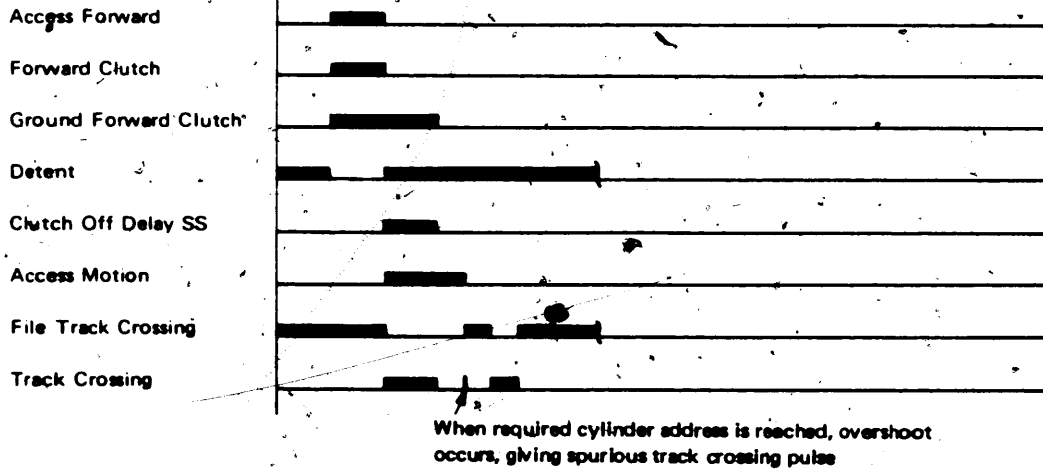

Figure 1-43. Head-Forward Operation - Timing [07504]
- Timing is given in Figure 1-43. Fr. D16
- See Figures 1-43, 1-44, and 1-45 Fr. D17 for timing and logic.